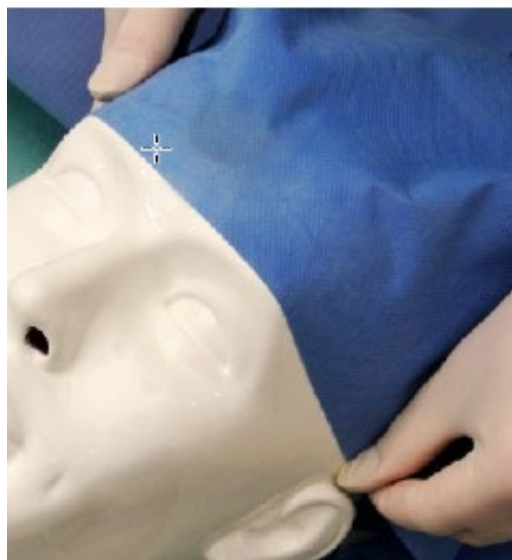

Figure 109 Cover patient tracker
5. If the calibration area of the patient tracker is not needed, the patient tracker can be fixed in place with medical adhesive tape and then covered with a surgical drape (Figure 109).